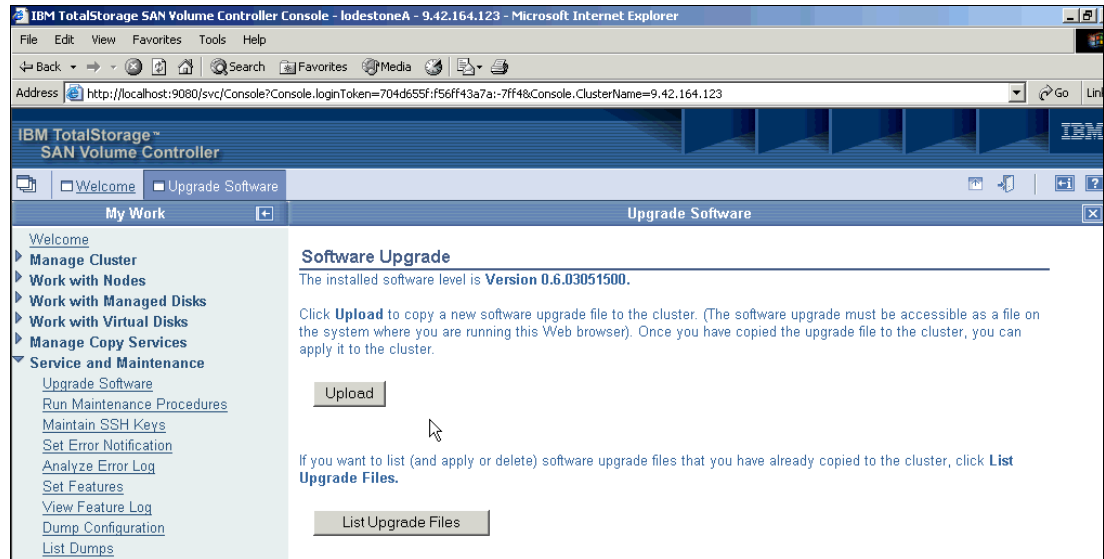

Figure 9-78 Update Software panel
3. On the Upgrade Software panel shown in Figure 9-78, you can either upload a new software upgrade file or list the upgrade files. Click the **Upload** button to upload the latest SVC cluster code.
- Return to the Upgrade Software panel (Figure 9-78), to see the version of the software that is displayed at the top of the panel. It should reflect the new level.